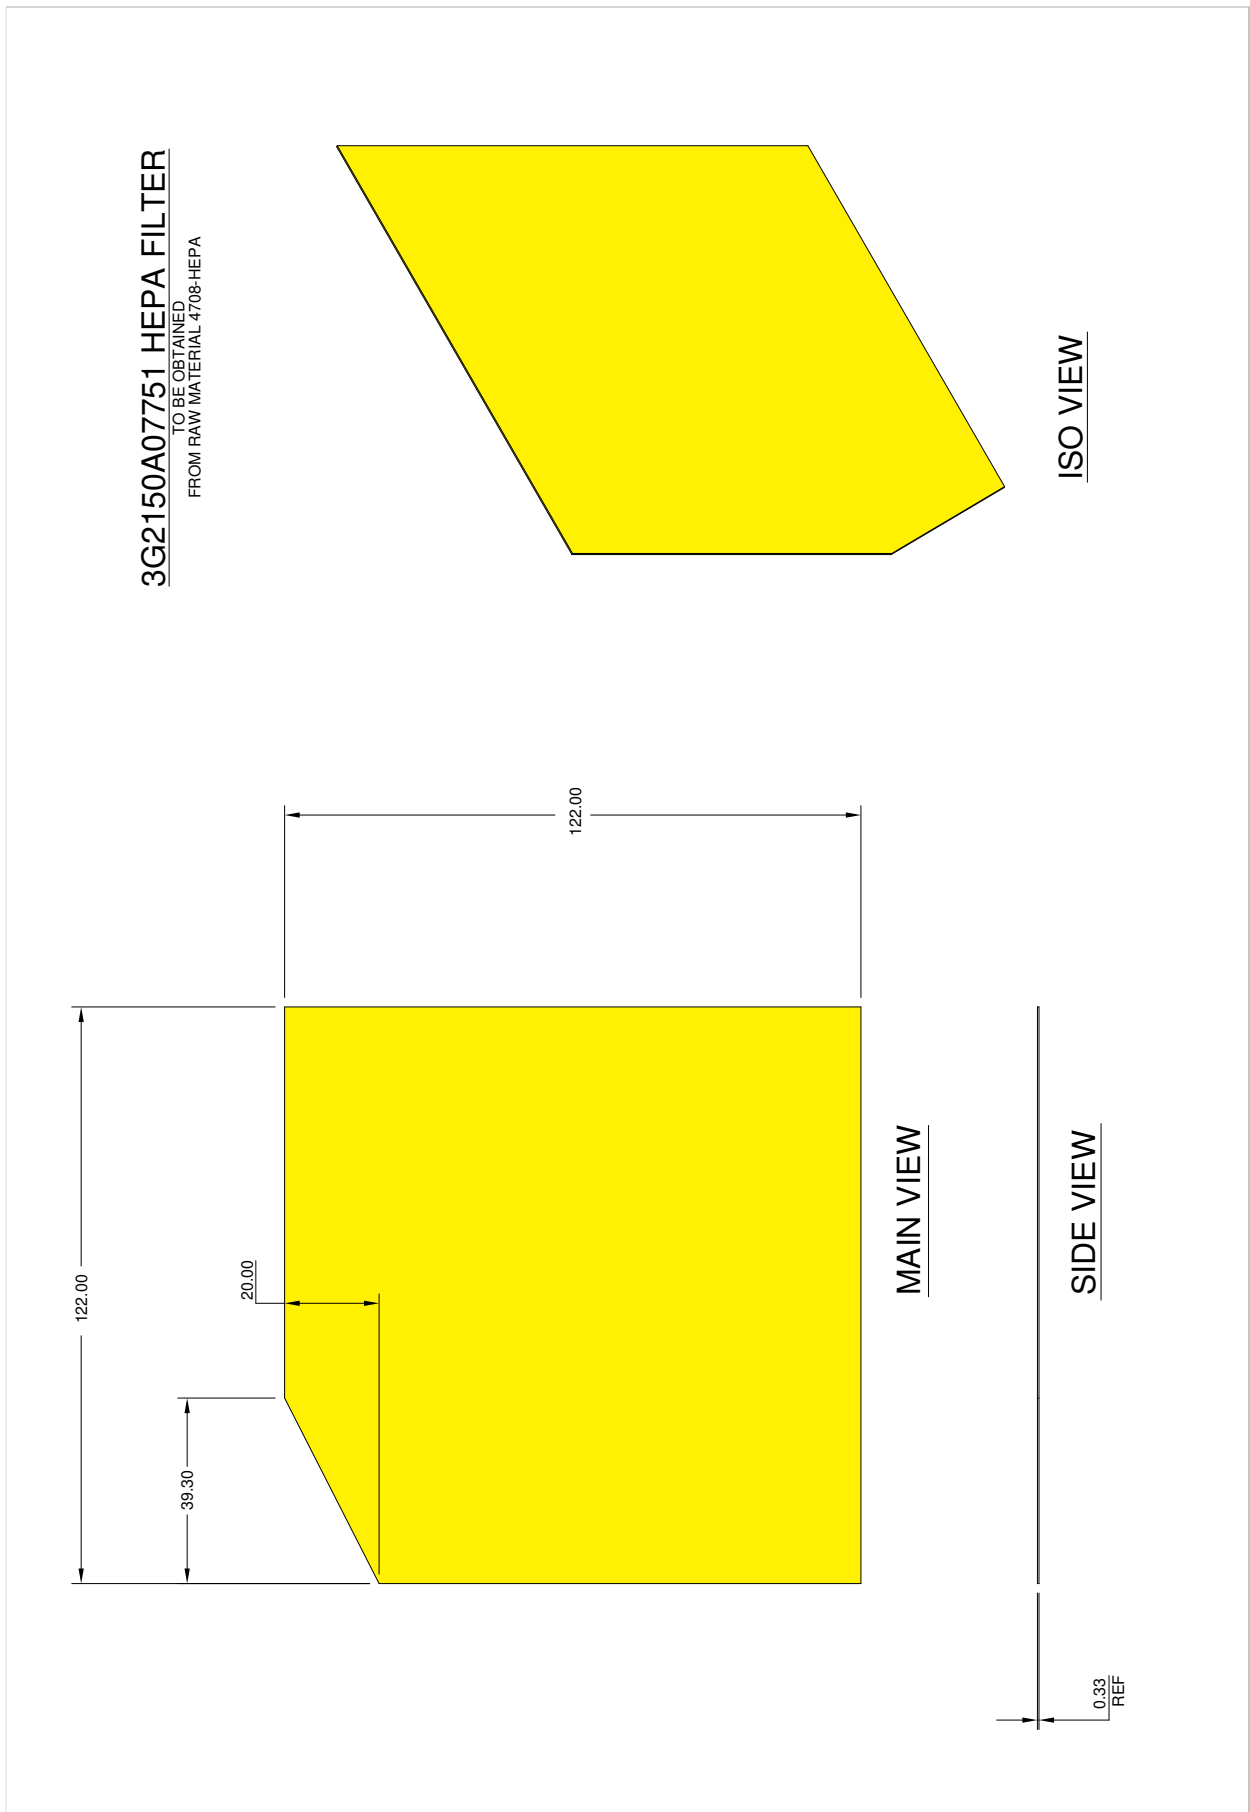

Figure 6
2. With reference to Figure 6, if necessary manufacture n°2 HEPA filters P/N 3G2150A07751 from the raw material P/N 4708-HEPA.